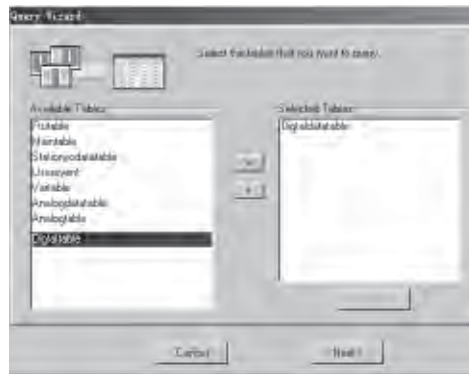

Fig. 8-5 Select the Listing Table 2
2.2 Double click the table name in Fig. 8-5. For example, Select **Digitaldatatable**, and it will appear in the listing table frame on the right. Then click the button **Next >**.